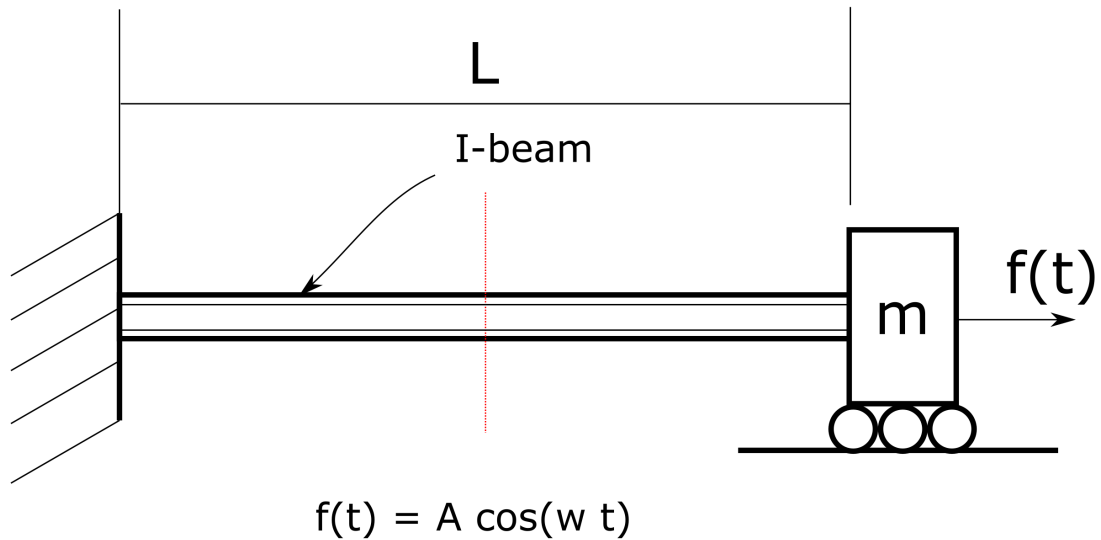

Figure 1
- (D) 5.99497
- (E) 9.12315
- (F) None of the above.
- (A) The modified endurance limit of this specimen decreases with an increase in cross-sectional dimension.
- (B) The modified endurance limit of this specimen increases with an increase in cross-sectional dimension.
- (C) The modified endurance limit of this specimen is not dependent on its cross-section, but only on its material properties.
- (D) The modified endurance limit increases with cross-sectional dimension if the specimen rotates and decreases with cross-sectional dimension if the specimen does not rotate.
- (E) The modified endurance limit increases with cross-sectional dimension if the specimen does not rotate and decreases with cross-sectional dimension if the specimen rotates.
- (F) None of the above
- (c) Calculate the stress amplitude in the bar shown in Figure 1.